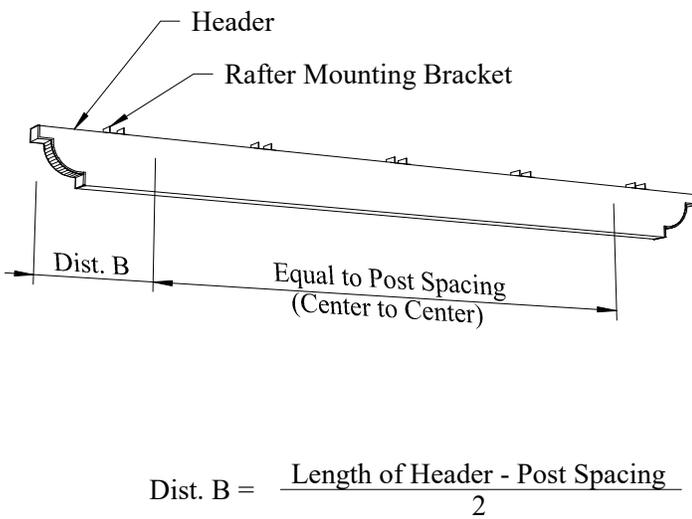

Fig. 4-1
- Mark the location of each post on the headers. Calculate Distance B as shown below if necessary (see Fig. 4-1).